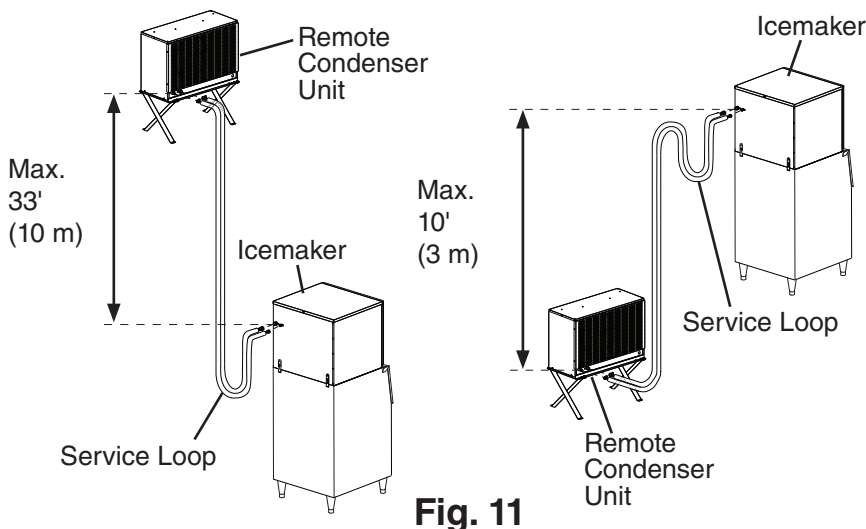

Fig. 11
- The maximum vertical distance between the remote condenser unit and the icemaker is 33' (10 m) above or 10' (3 m) below the icemaker. These distances are measured fitting to fitting. See Fig. 11.